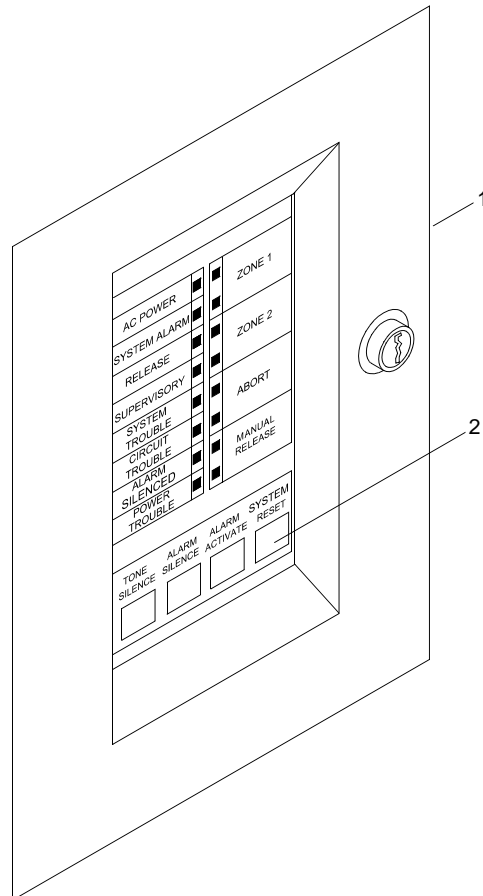

Figure 7. Fire Alarm System Reset Button
- a. At the fire alarm control panel (figure 7, item 1), press and hold SYSTEM RESET button (figure 7, item 2) to illuminate LED indicators and activate sounder.
- c. Press SYSTEM RESET button (figure 7, item 2) before fire suppression is released.